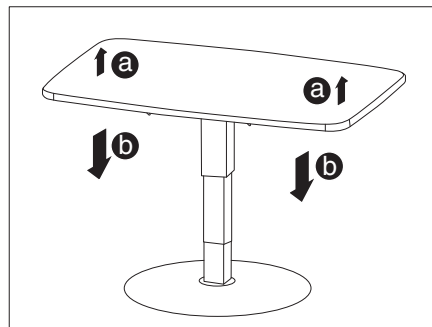

Fig. 53 Lift-off table
- Lift up the tabletop briefly (Fig. 53,a) and then press down (Fig. 53,b), until the desired height is reached.